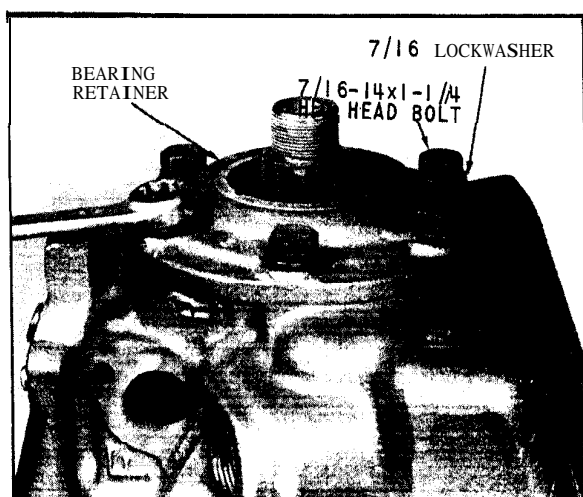

Fig. 31 Assembling Bearing Retainer on Rear of Case
28. Remove six (6) hex head bolts and lockwashers, (Fig. 31).
14. Place bearing retainer in place on rear of case as shown in (Fig. 31). Install six (6) 7/16 lockwashers and six (6) 7/16-14 hex head bolts; tighten bolts to a torque of 42-50 pounds-feet.